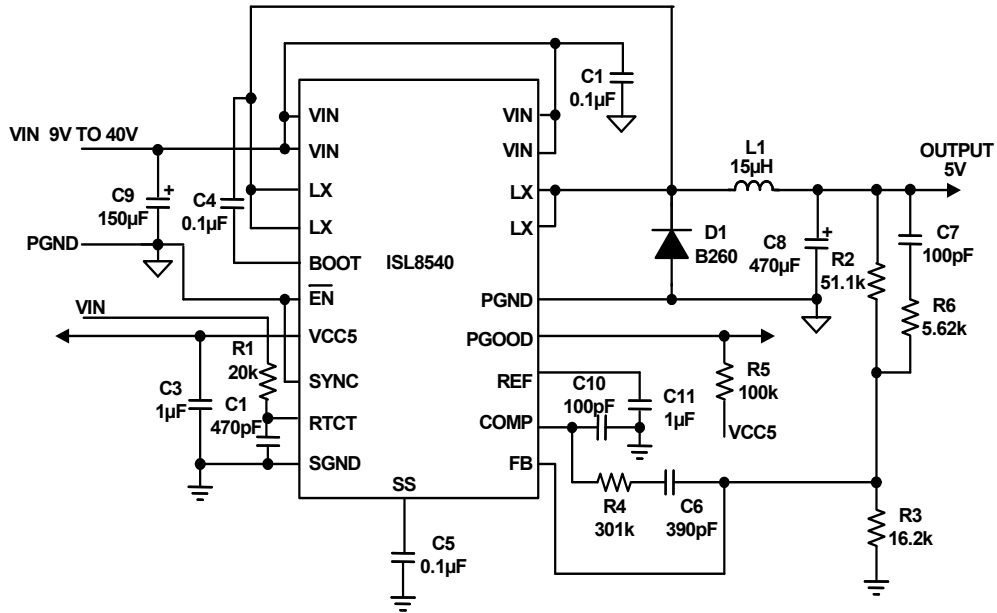

FIGURE 2. TYPICAL SCHEMATIC FOR ISL8540 (5V VOUT)
**Typical Performance Curves** Circuit of Figure 2,  $V_{IN} = 24V$ ,  $\overline{EN} = 0V$ ,  $FS = 500KHz$ ,  $V_{OUT} = 5V$ , unless otherwise noted. Typical values are at  $T_A = +25^\circ C$ .
**Typical Performance Curves** Circuit of Figure 2,  $V_{IN} = 24V$ ,  $\overline{EN} = 0V$ ,  $FS = 500KHz$ ,  $V_{OUT} = 5V$ , unless otherwise noted.
**Typical Performance Curves** Circuit of Figure 2,  $V_{IN} = 24V$ ,  $\overline{EN} = 0V$ ,  $FS = 500KHZ$ ,  $V_{OUT} = 5V$ , unless otherwise noted. Typical values are at  $T_A = +25^{\circ}C$ . (Continued)